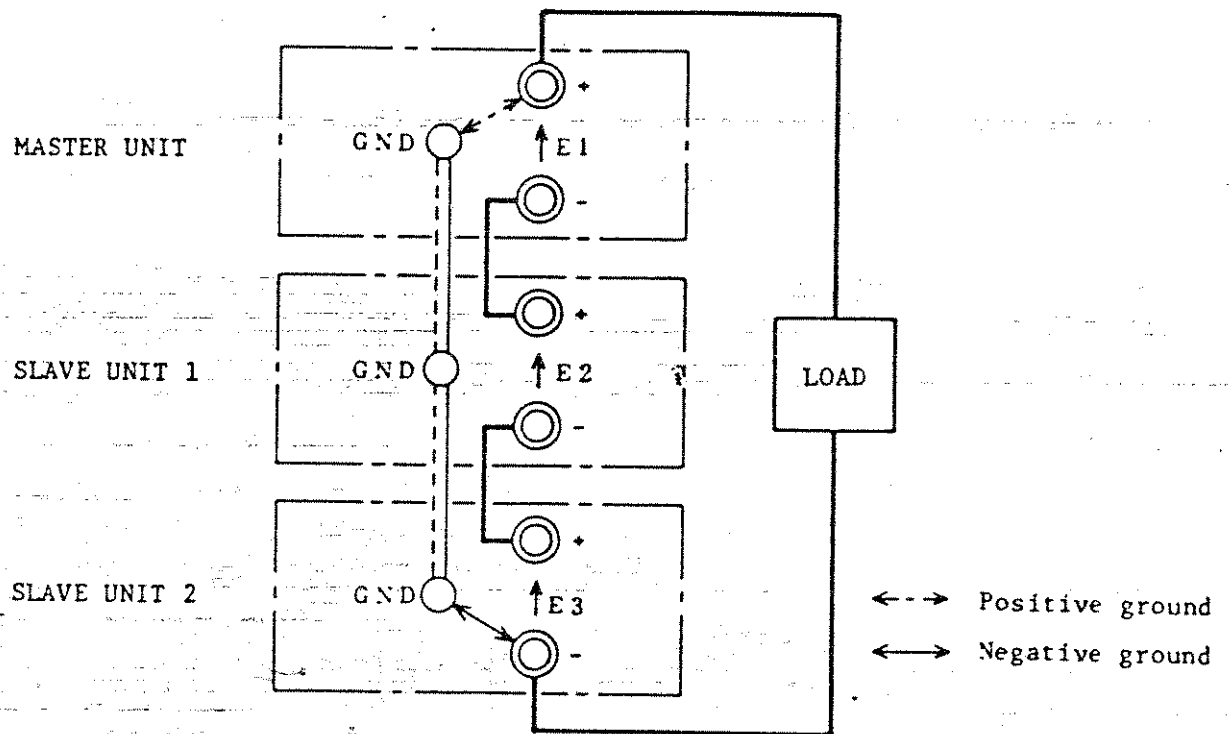

Figure 4-13. Output terminal connections
4. Connect the rear output terminal as shown in Figure 4-13.